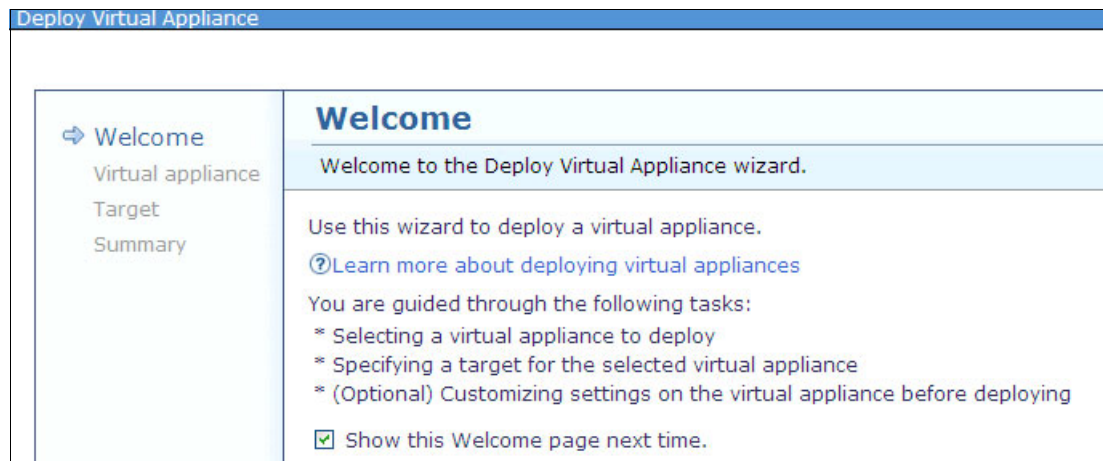

Figure 9-125 Deploy Virtual Appliance Welcome window
2. The Welcome window for the Deploy Virtual Appliance opens as shown in Figure 9-125. Click **Next**.